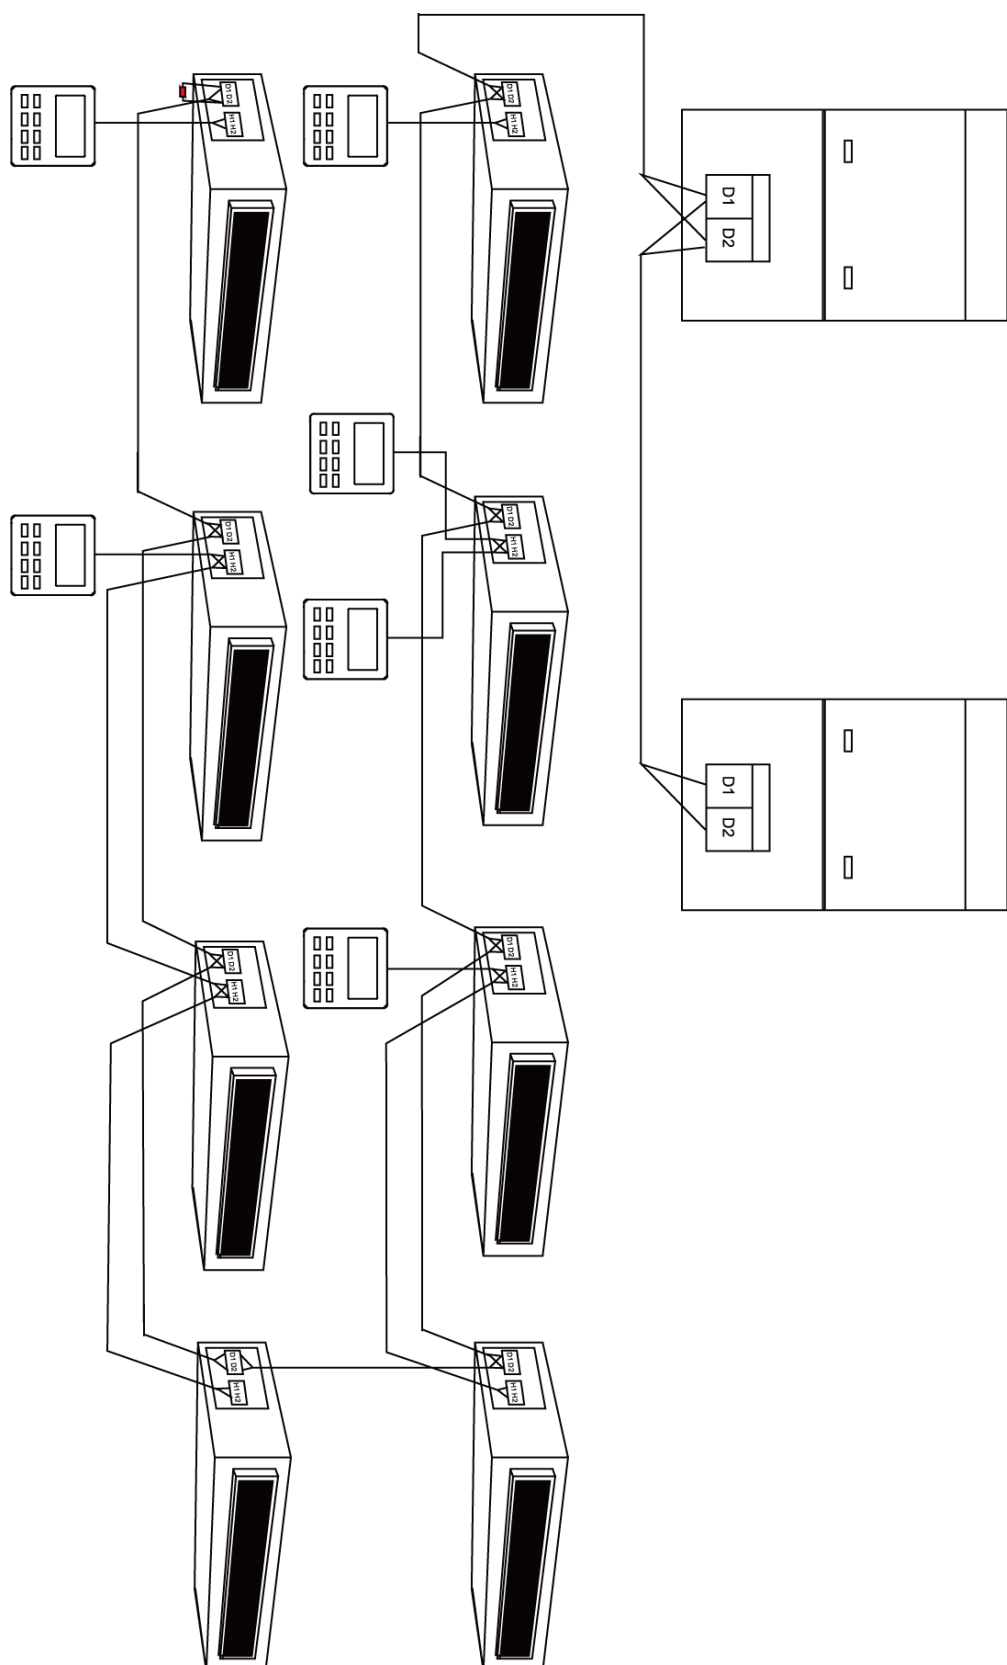

Fig 5.5
- (1) Communication wire of indoor unit and outdoor unit (or indoor unit) is connected to D1, D2.
- (2) Wired controller is connected to H1, H2.
- (3) One indoor unit can connect two wired controllers that must be set as master one and slave one.
- (4) One wired controller can control 16 indoor units in maximum at the same time. (As shown in fig5.5)